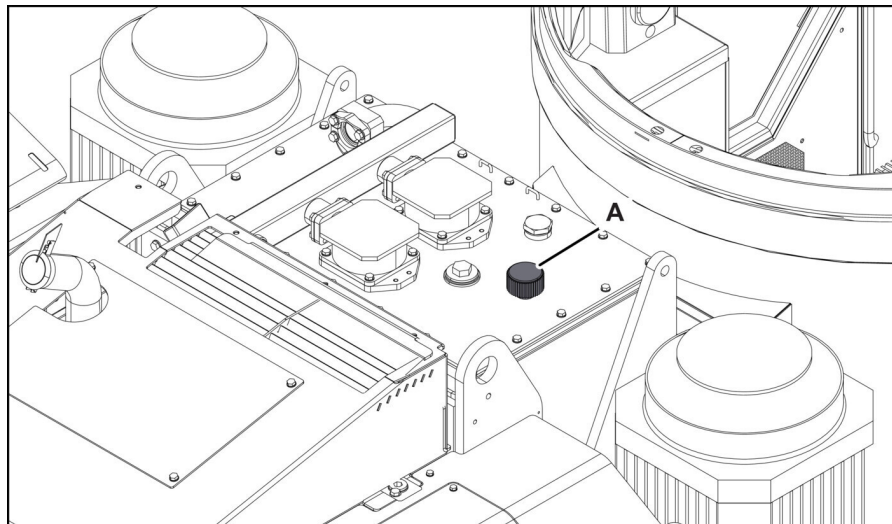

Figure 6A For Boltec M, E, EC, Simba M6C,E7C, Boomer M1D, Cabletec M,E and LC Machines
19. Remove the breather filter cap (Figures 6A and 6B, item A) from the hydraulic oil tank.